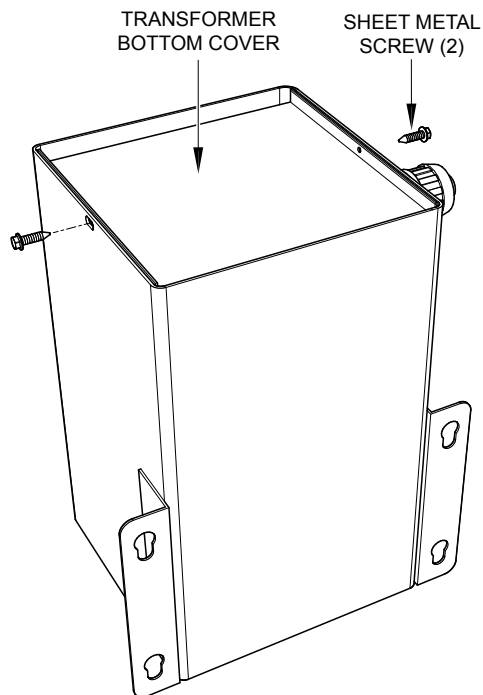

Figure 8. Removing Transformer Cover
1. Set the transformer in an upright position (bottom facing upwards) as shown in Figure 8.
2. Remove the 2 sheet metal screws as shown in Figure 8 that secure the bottom cover to the transformer. Set screws aside in a safe place, they will be reused.